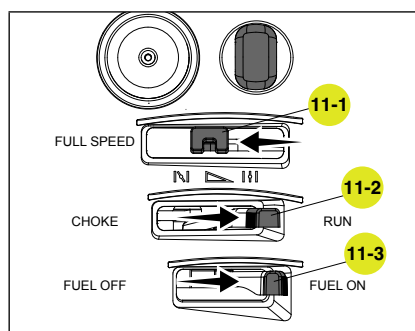

Figure 11
3. To start a warm engine: (Fig. 11).